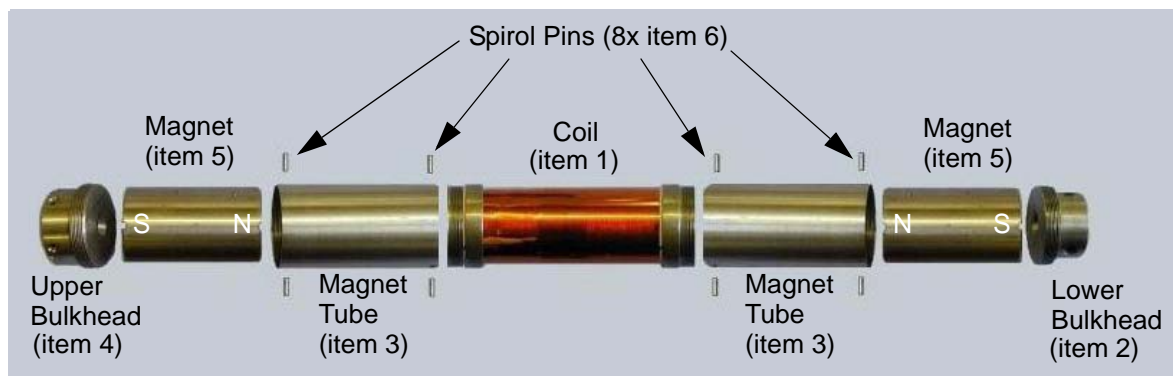

Figure 5.1 Coil & Magnets Assembly
- 2 Fit the Upper Magnet (item 5) onto the Coil (item 1), ensuring Magnet polarity orientation as shown in *Figure 5.1* (N facing the Coil).
- 7 Refit the Lower Magnet (item 5) into the Magnet Tube Cover (item 3), ensuring Magnet polarity orientation as shown in *Figure 5.1* (N facing the Coil).